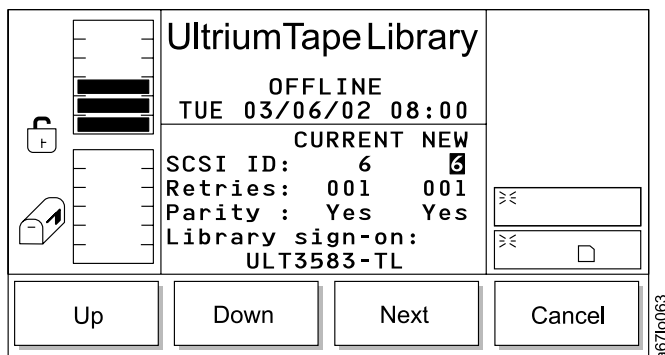

Figure 54. Library SCSI dialog screen
2. Select **Setup** → **Library** → **SCSI**. The SCSI dialog screen displays (see Figure 54). The existing ID is the value in the SCSI ID: CURRENT field.